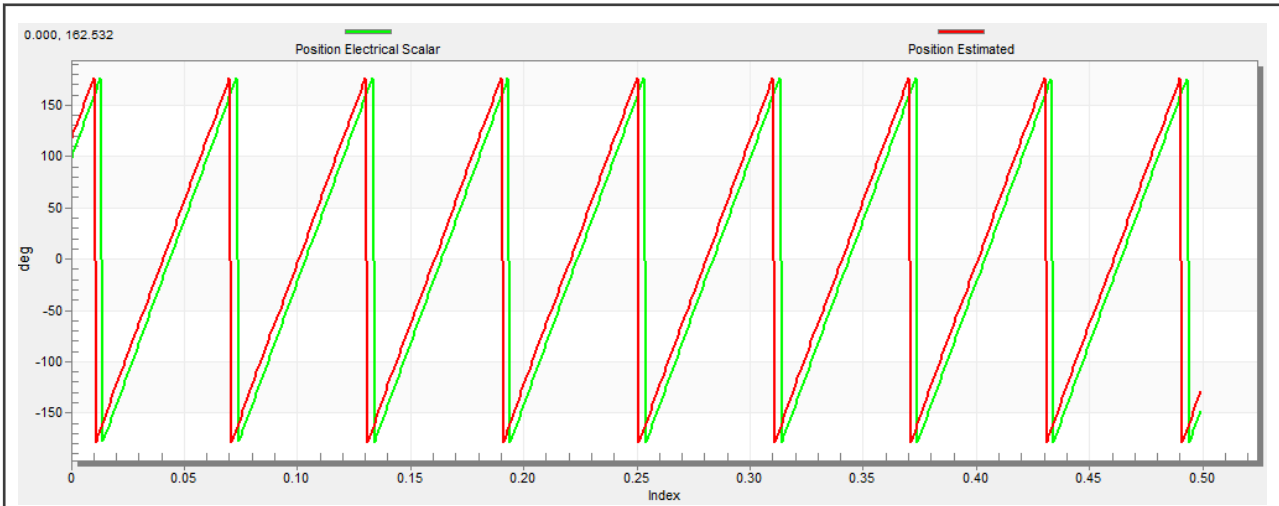

Figure 26. Generated and estimated positions
6. Select the “Position” recorder to check the observer functionality. The difference between the “Position Electrical Scalar” and the “Position Estimated” should be minimal (see Figure 26) for the Back-EMF position and speed observer to work properly. The position difference depends on the motor load. The higher the load, the bigger the difference between the positions due to the load angle.